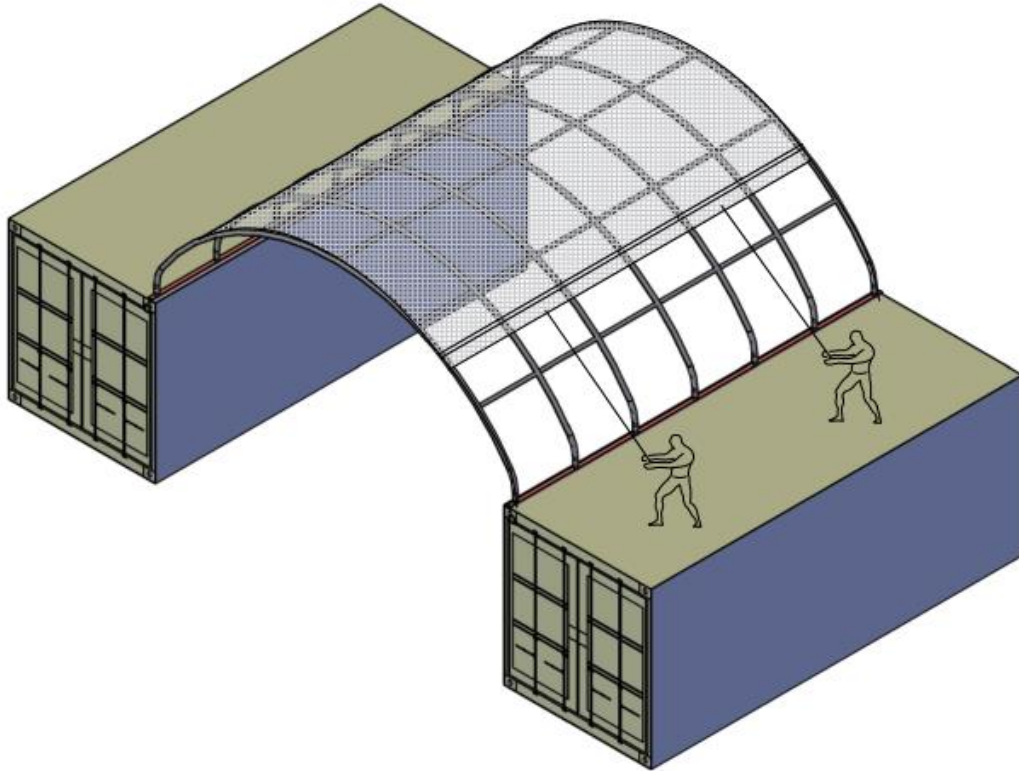
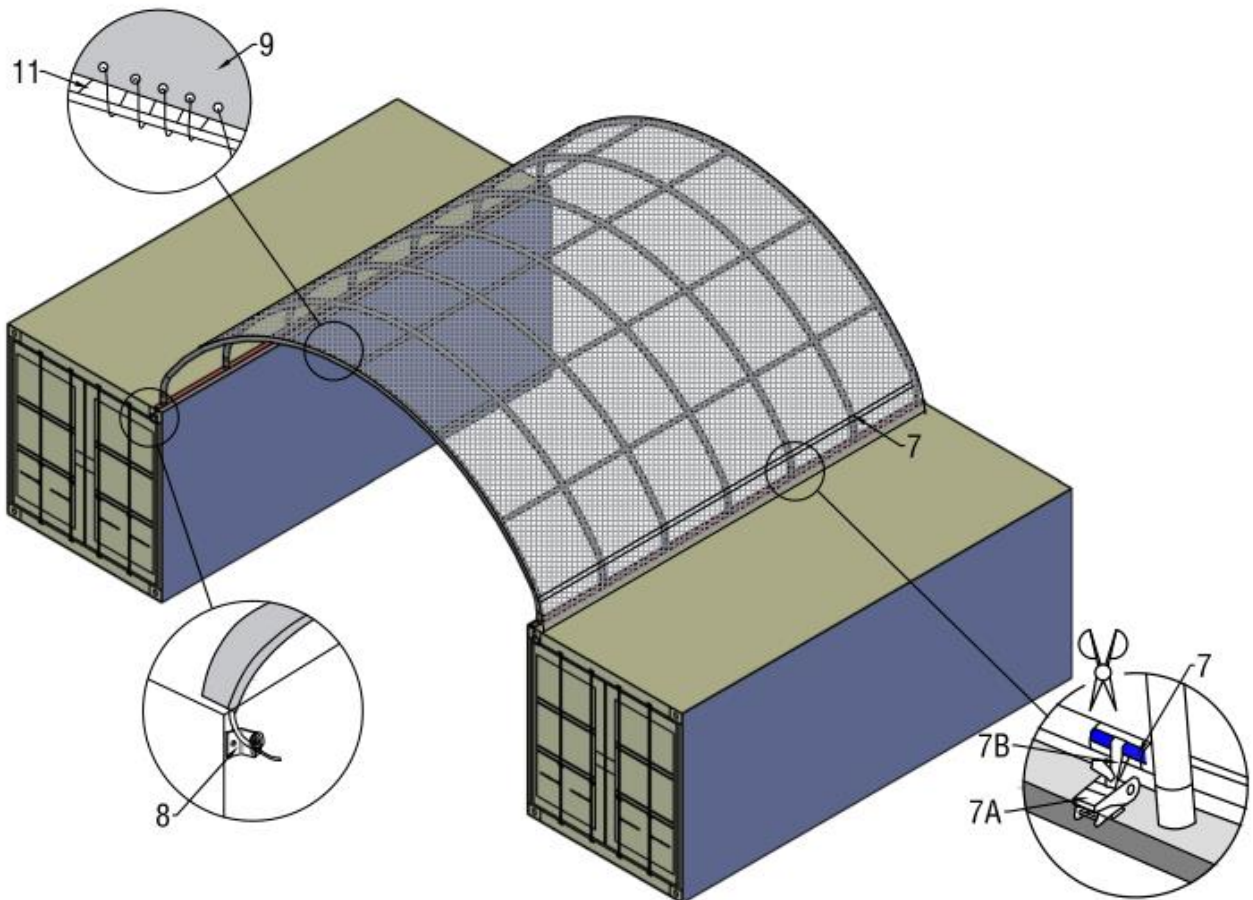

Figure 6
Figure 7
3. Cut pockets according to the position of the base plates and put the Lower Tension tubes for roof cover (part code 7) into the pocket of roof cover. Then use the Rope (part code 11) to tie down the Lower tension tubes like the Figure 6 & Figure 7